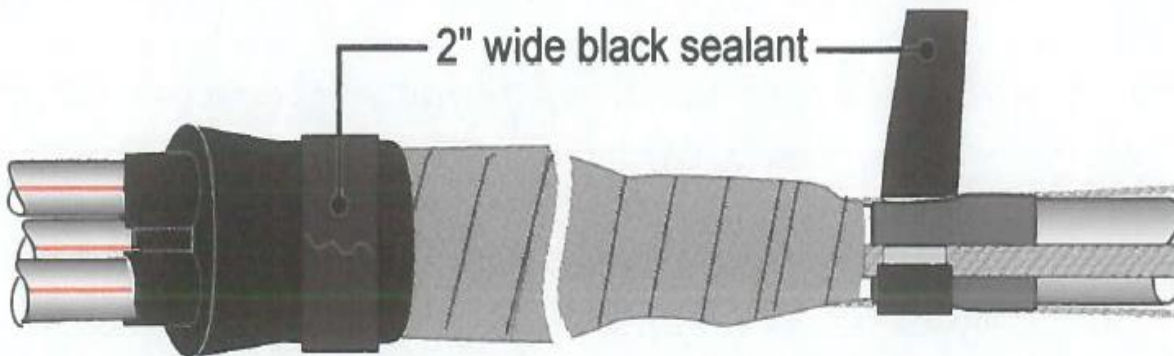

Figure 25
4. Wrap one half-lapped layer of tinned copper mesh around all three splices and tie off with a slip knot to secure. Install breakout boot and heat shrink according to manufacturer's instructions. Apply mastic sealant ant both ends of the splices. Make sure to wrap mastic sealant under and over the solder block braids to provide a complete moisture seal for the splice. Refer to Figure 25.